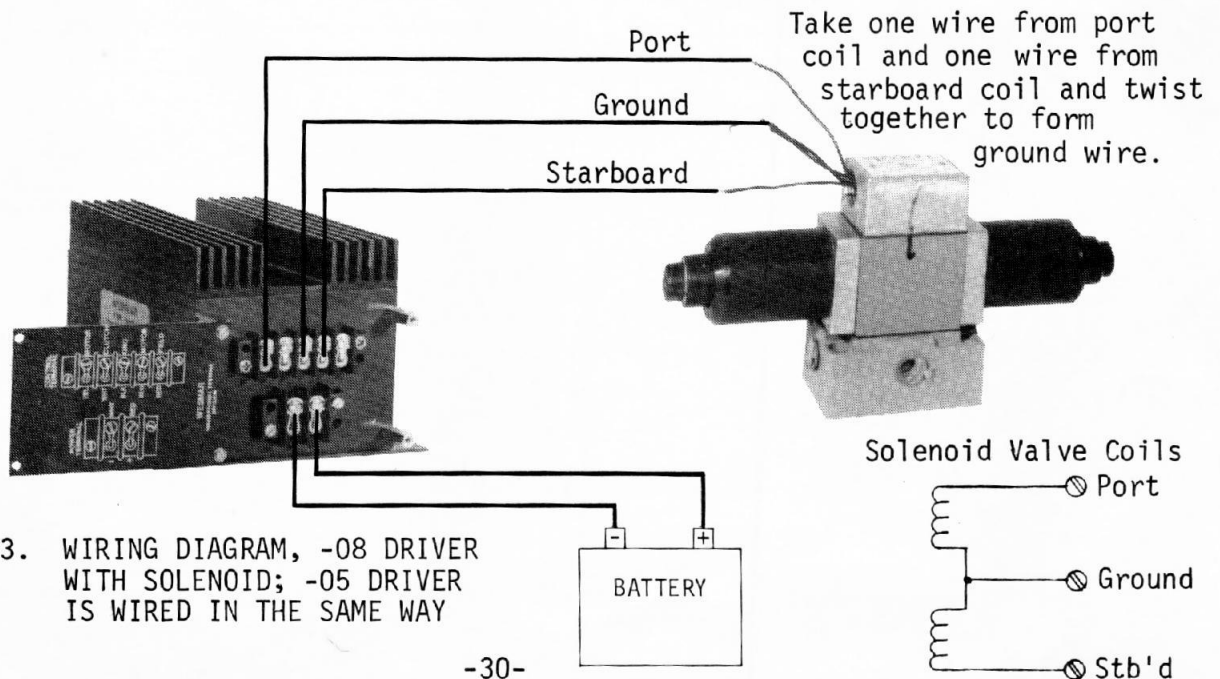

FIGURE 33. WIRING DIAGRAM, -08 DRIVER WITH SOLENOID; -05 DRIVER IS WIRED IN THE SAME WAY
7. Wire the Solenoid to the Servo Driver, as shown in Figure 33, page 30.
The Autopilot system receives its DC power from the Servo Driver, which must be connected to the vessel's battery source, as shown in Figure 33 on page 30. Since the Servo Motor draws considerable current under heavy loads, large power cables must be used to connect the battery to the Driver. Refer to the table below to determine the size of wire needed.